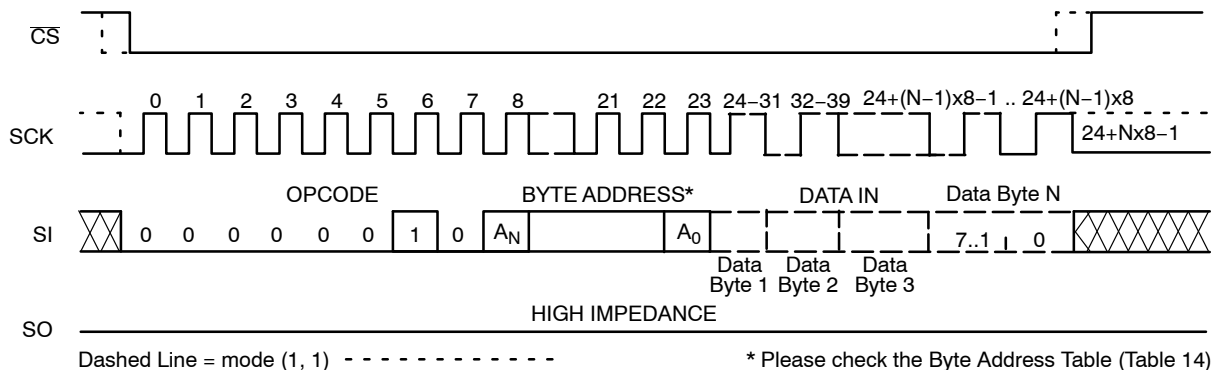

Figure 6. Page WRITE Timing
After sending the first data byte to the CAT25256, the host may continue sending data, up to a total of 64 bytes, according to timing shown in Figure 6. After each data byte, the lower order address bits are automatically incremented, while the higher order address bits (page address) remain unchanged. If during this process the end of page is exceeded, then loading will "roll over" to the first byte in the page, thus possibly overwriting previously loaded data. Following completion of the write cycle, the CAT25256 is
The additional 64-byte Identification Page (IP) can be written with user data using the same Write commands sequence as used for Page Write to the main memory array (Figure 6). **The IPL bit from the Status Register must be set (IPL = 1) using the WRSR instruction, before attempting to write to the IP.**